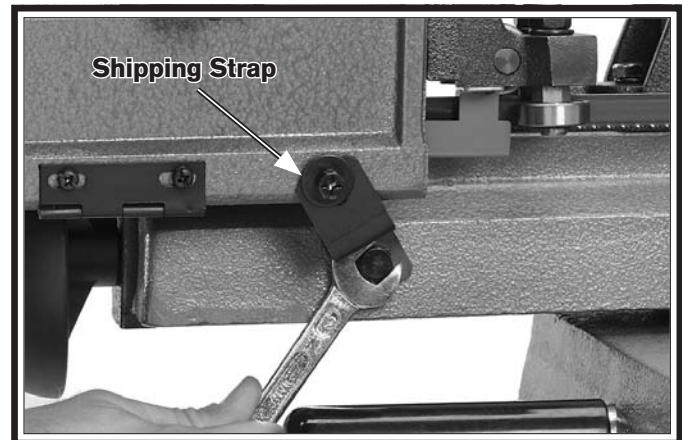

Figure 10. Removing a shipping strap.
1. Remove the shipping strap hex bolt and strap as shown in **Figure 10**. Keep this shipping strap in case you transport or ship the bandsaw in the future.